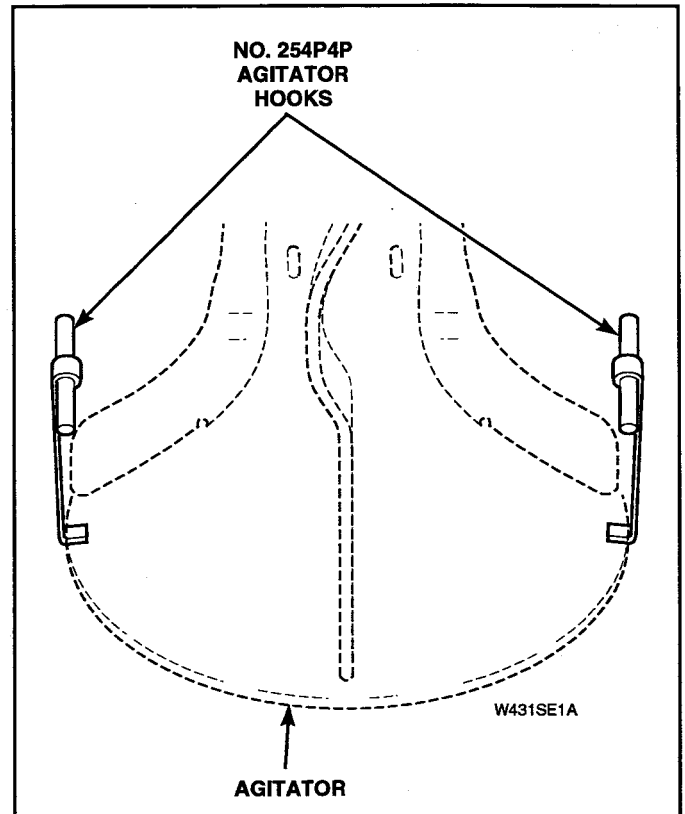

Figure 5-8
- Remove agitator by placing two agitator hooks, No. 254P4P, under bottom edge of agitator. See Figure 5-8.